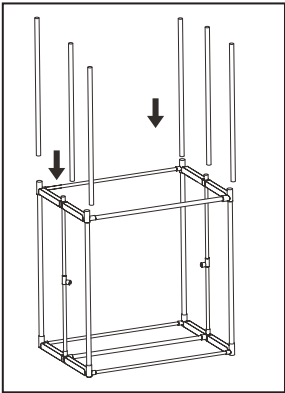

Fig. 5
6. Attach 6 (D) large poles to each hole on the other side of the (B) Middle Module (Fig.5).